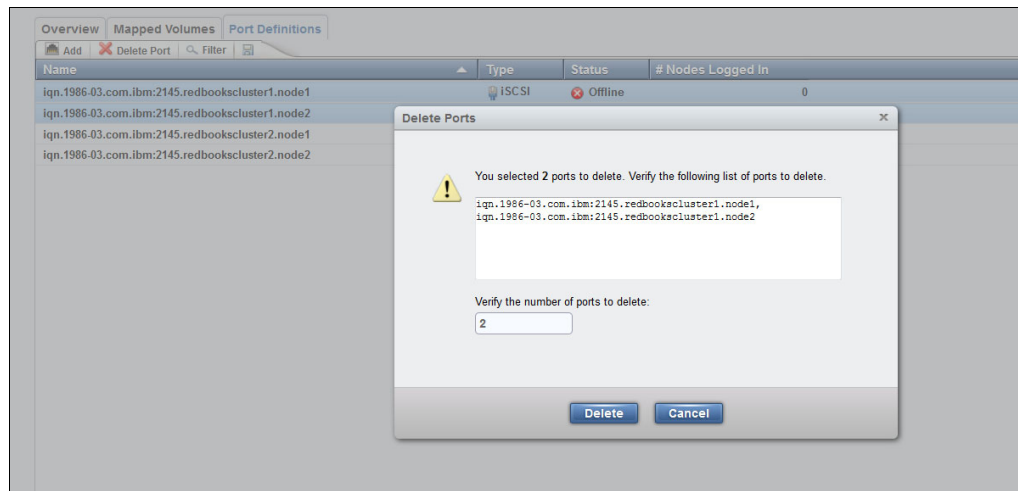

Figure 15-12 Deleting old IQNs from the host object list
- d. Select the old IQNs and click **Delete Port**. A window opens, as shown in Figure 15-12. In the Verify the number of ports to delete field, enter the number of old IQNs that you want to delete.